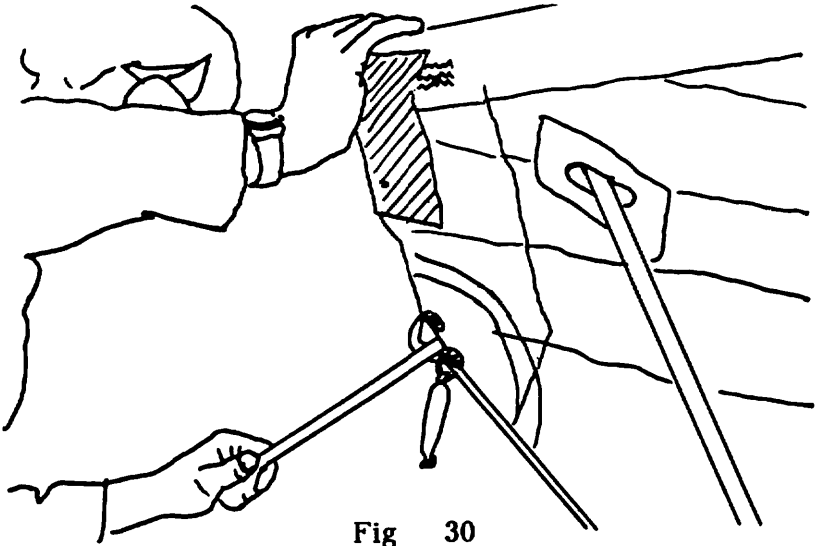
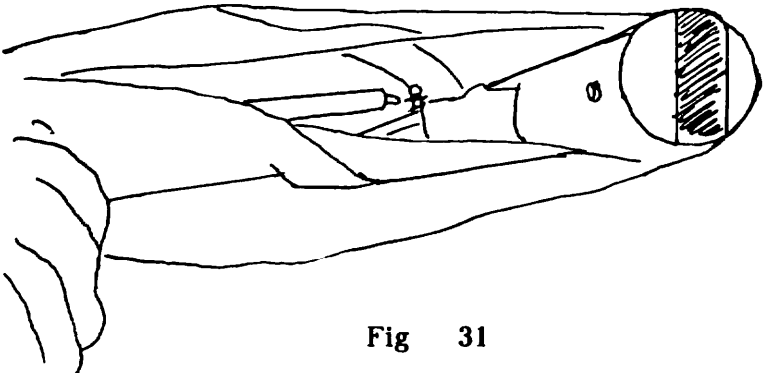
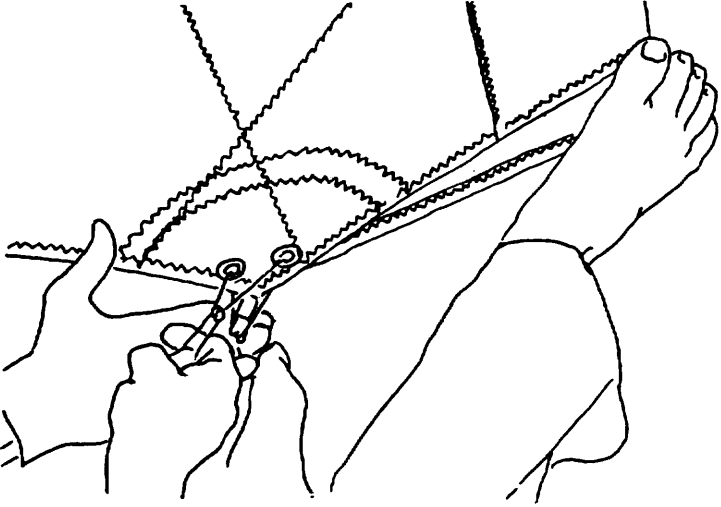

Fig 30
Fig 31
Fig 32
18) Insert the number one battens. They are inserted between the top and bottom surface through the gap in the seam. (Fig 30) They are not inserted through the washout tube hole. Fit the batten end fork on the front of the batten to the stud on top of the leading edge. (fig 31) Attach the leech line twice to each batten. You may find it easiest to sit on the ground and place your foot against the leading edge in order to obtain the necessary tension on the batten string. (Fig 32)